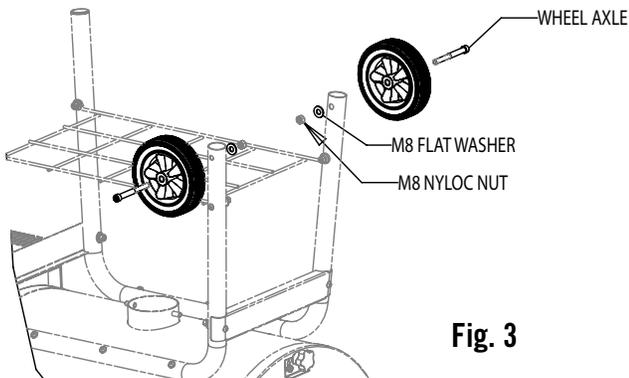

Fig. 3
4. Assemble Qty (2) Wheels to the legs as shown in Fig 3 using Qty (2) Wheel Axles, Qty (2) M8 Flat Washers, and Qty (2) M8 Nyloc Nuts. Tighten axle hardware with a wrench.